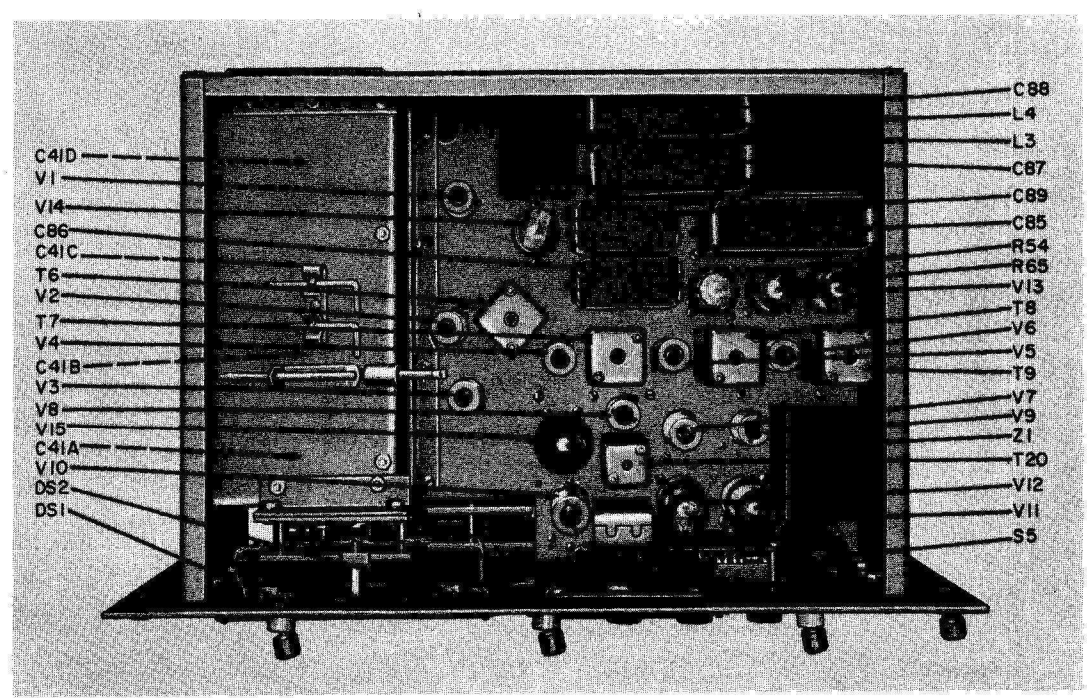

Figure 7-2. Radio Receiver R-649/UR, Top View
c. SPECIAL TOOLS AND DUMMY ANTENNA.—A special double-ended alignment tool is furnished with the receiver. When not in use it is clipped to the tuning capacitor cover located on top of the receiver chassis. See figure 7-2. The small end of this tool is used for aligning the bottom slug in the i-f transformers by insertion through the top slug. The larger end of this tool is for aligning the top slug in the i-f transformers. Adjustment of the trimmer and padder capacitors and the slugs in the r-f section of the receiver is done with any suitable non-metallic alignment tool. The dummy antenna used for alignment and testing of the receiver consists of a small composition resistor and a small mica capacitor in series with the low impedance output of the r-f signal generator. The 0.20 to 0.40 mc (band 1) dummy antenna consists of a 300-ohm composition resistor and a 500 uuf mica capacitor in series with the r-f signal generator across the antenna input terminals. The dummy antenna for bands 2 through 5 is the same except a 200 uuf mica capacitor is substituted for the 500 uuf capacitor.
e. **CIRCUIT PARTS LOCATIONS.**—Figures 7-2 through 7-10 show various views of the receiver and are intended to aid in the location of the electrical parts and various test and align-
(5) I-F ALIGNMENT PROCEDURE.
Step 1. Connect a 0.01 uf capacitor to the r-f output lead of the signal generator. By means of a small clip, connect the other end of this capacitor to the control grid (pin 1) of V4. Refer to figures 7-2 through 7-10 and 7-12 and 7-13 for location of necessary component parts and alignment points. Connect the ground lead of the r-f signal generator to B-.